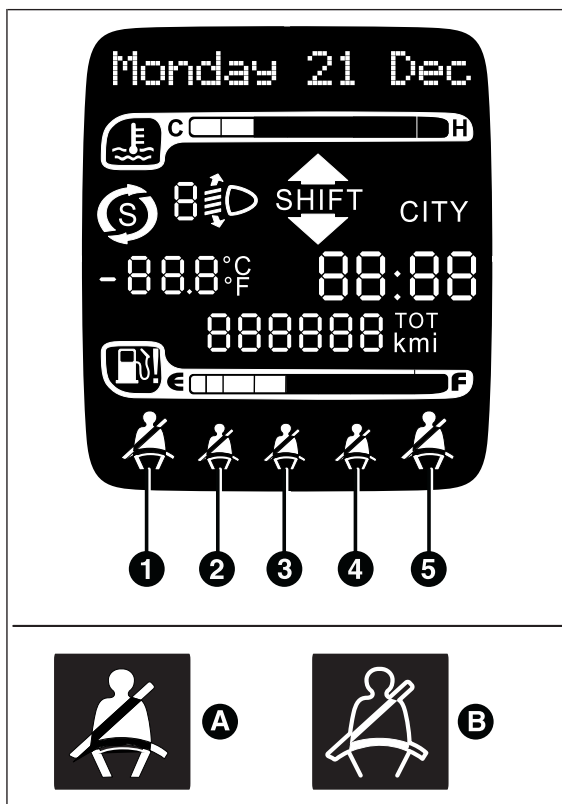

fig. 83
This system consists of a device which, in conjunction with the switching on of the warning light on the instrument panel and an intermittent acoustic signal, warns the driver and front passenger if their seat belts have not been fastened. The icon A fig. 83 indicates that the seat belt is not fastened. The icon B fig. 83 indicates that the seat belt is fastened.
If the seat belt is unfastened again while travelling, the acoustic reminder resumes as described previously and icon A  fig. 83 switches on.
For the rear seats, the reminder cycle is only activated when any seat belt is unfastened together with an acoustic signal (three beeps) (icon A  fig. 83). In the condition of any (front or rear) seat belt changes, also the condition of the other (front/rear) seat belts is reported.
The visual indication (icon A  fig. 83) will start and stop independently for each warning light if several seat belts are unfastened. The visual signal will change condition (icon B  fig. 83) after the corresponding seat has been fastened again.
**IMPORTANT** When the ignition key is turned to MAR, if all the front and rear belts are already fastened the warning lights will remain in position B  fig. 83 for 30 seconds.
**IMPORTANT** When the ignition key is turned to MAR, the belts fastened icons will remain in position B  fig. 83, whilst the belts unfastened icons will be displayed as in position A  of fig. 83. If the last belt is also fastened, the icons will remain in position B  fig. 83 for 30 seconds then they will switch off.